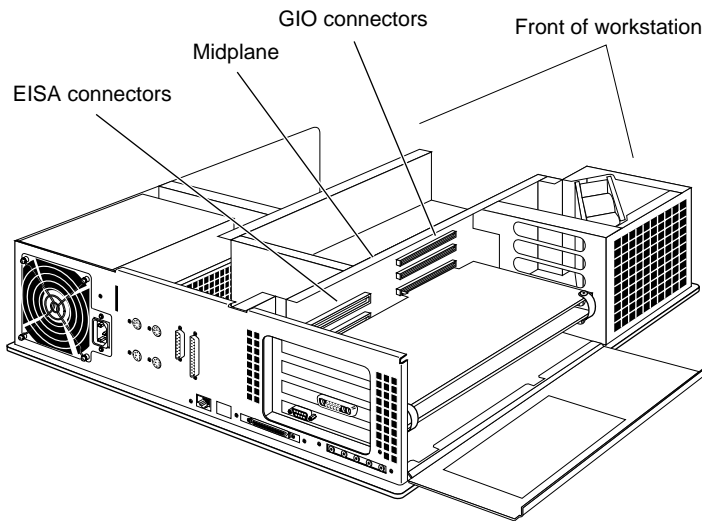

Figure 4-9 Locating the EISA and GIO Connectors
5. Locate the EISA or GIO connector for the board or boards you are installing. Your Indigo² IMPACT workstation has two sets of option connectors, as shown in Figure 4-9.